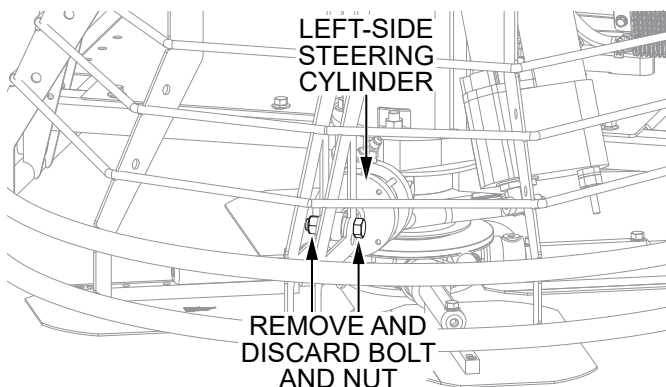

Figure 3. Remove Left-Side Steering Cylinder Hardware
2. Remove and discard the bolt and nut (Figure 3) securing the left-side steering cylinder to the trowel frame.